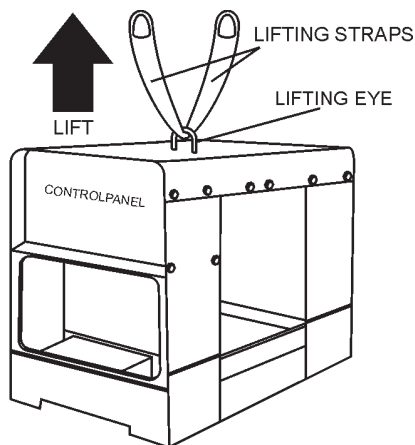

Figure 4. Lifting Equipment
4. Insert a lifting strap through the lifting eye on top of the machine and raise the generator/welder off the ground using a lifting device of adequate capacity (Figure 4). The generator/welder can be suspended in air while installing the wheel kit or can be set down on an object which can support the weight of the machine. Ensure the bottom of the cabinet has enough clearance to install the wheel kit.